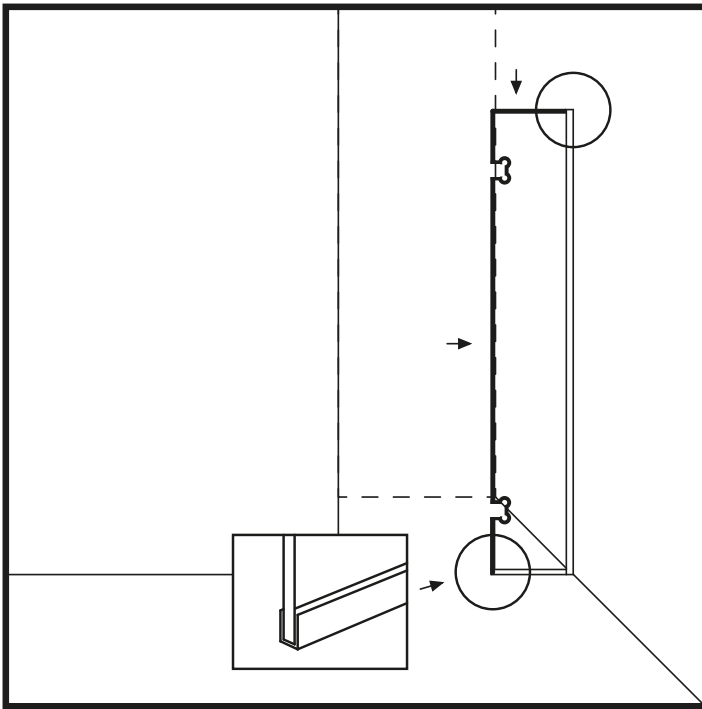

Figure 7
15. Place the shower glass between the U-profiles and press it both towards the wall and downwards so that the silicone adheres to the glass. (Figure 7)